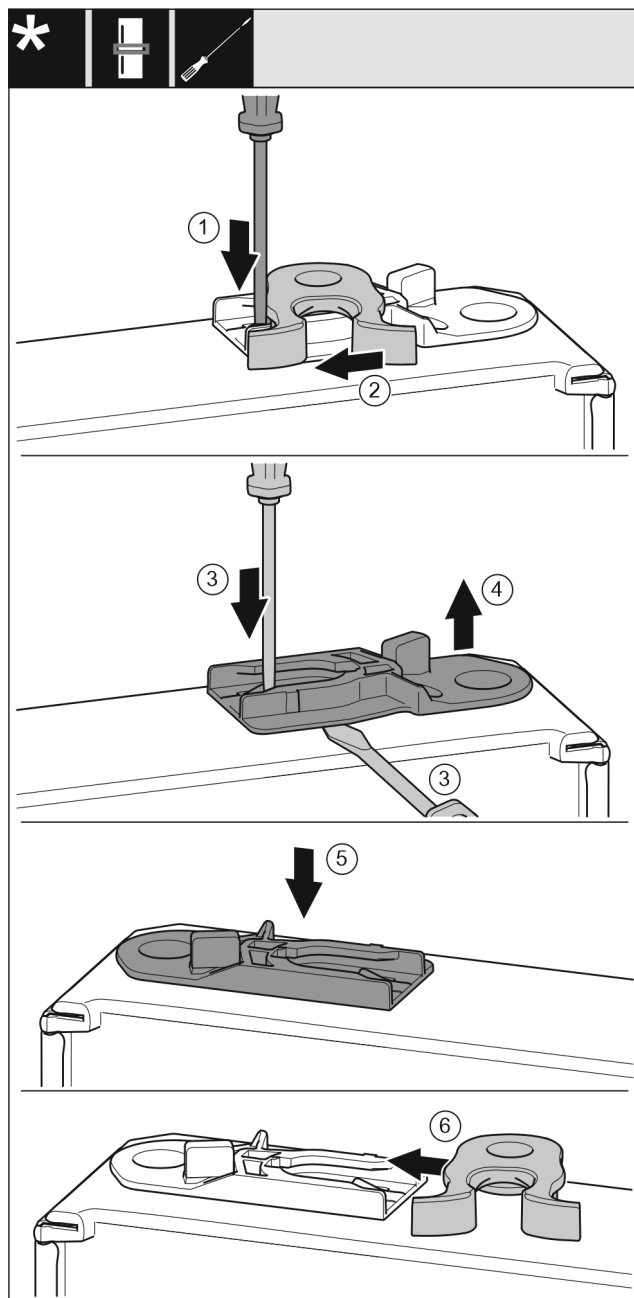

Fig. 20
- Use a slotted screwdriver to push the tab Fig. 20 (1) downward.
- Pull the closing hook Fig. 20 (2) out of the guide on the other side.
- Pull out the guide bushing Fig. 20 (3, 4): Press the tab with the slotted screwdriver while running the slotted screwdriver under the guide bushing at the same time.
- Insert the guide bushing Fig. 20 (5) supplied in the scope of delivery on the other side of the housing.
- Push the closing hook Fig. 20 (6) into the guide.